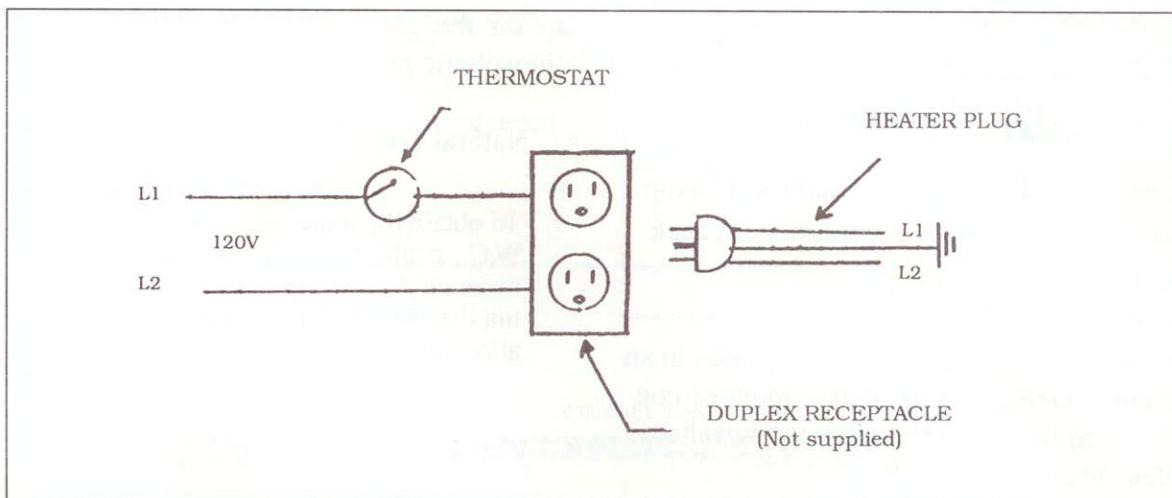

Figure 2.10.1
7. Heaters are supplied with a standard 120 volt 3 prong plug that plugs into duplexed receptacle. Thermostat will control receptacle. (see Figure 2.10.1)